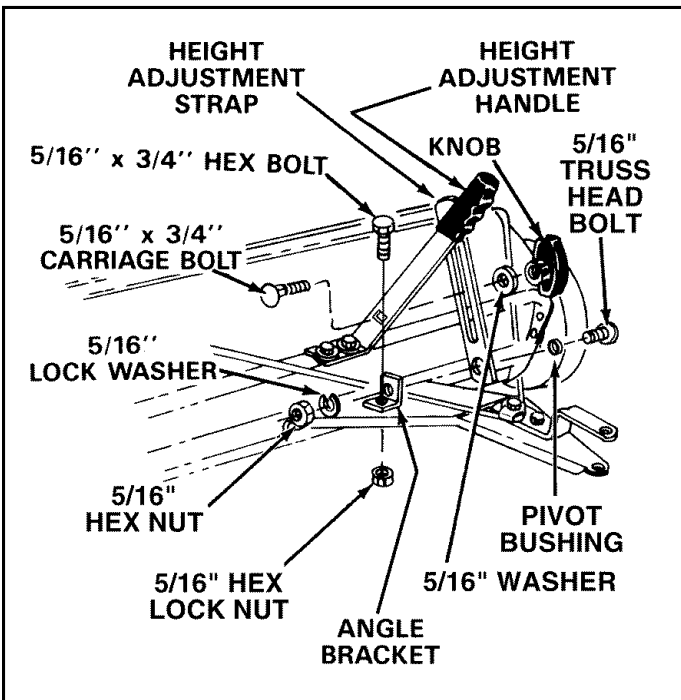

FIGURE 5
- Assemble the short end of the angle bracket to the hitch tongue using a 5/16" x 3/4" hex bolt and 5/16" hex lock nut. See figure 5.
- Place the pivot bushing into the hole in the height adjustment strap. Attach the strap and spacer to the angle bracket using the 5/16" x 3/4" truss head bolt, a 5/16" lock washer and a 5/16" hex nut. See figure 5.
- Attach the slotted end of the height adjustment strap to the height adjustment handle by inserting a 5/16" x 3/4" carriage bolt through the handle and then the strap. Assemble a 5/16" washer and the plastic hand knob onto the bolt. See figure 5.